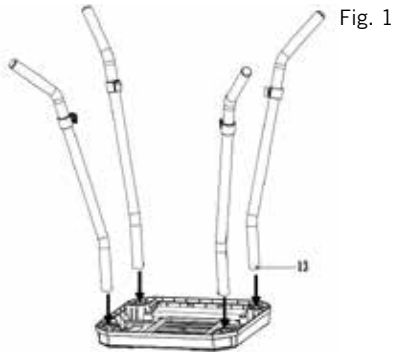

Fig. 1
4. Attach the four stand tubes [12] to the grill base [11] (Fig. 1). The stand tube needs to be inserted into the respective opening on the grill base. There is a pin [13] at the end of each stand tube, which will audibly lock into place when the stand tube is inserted properly.